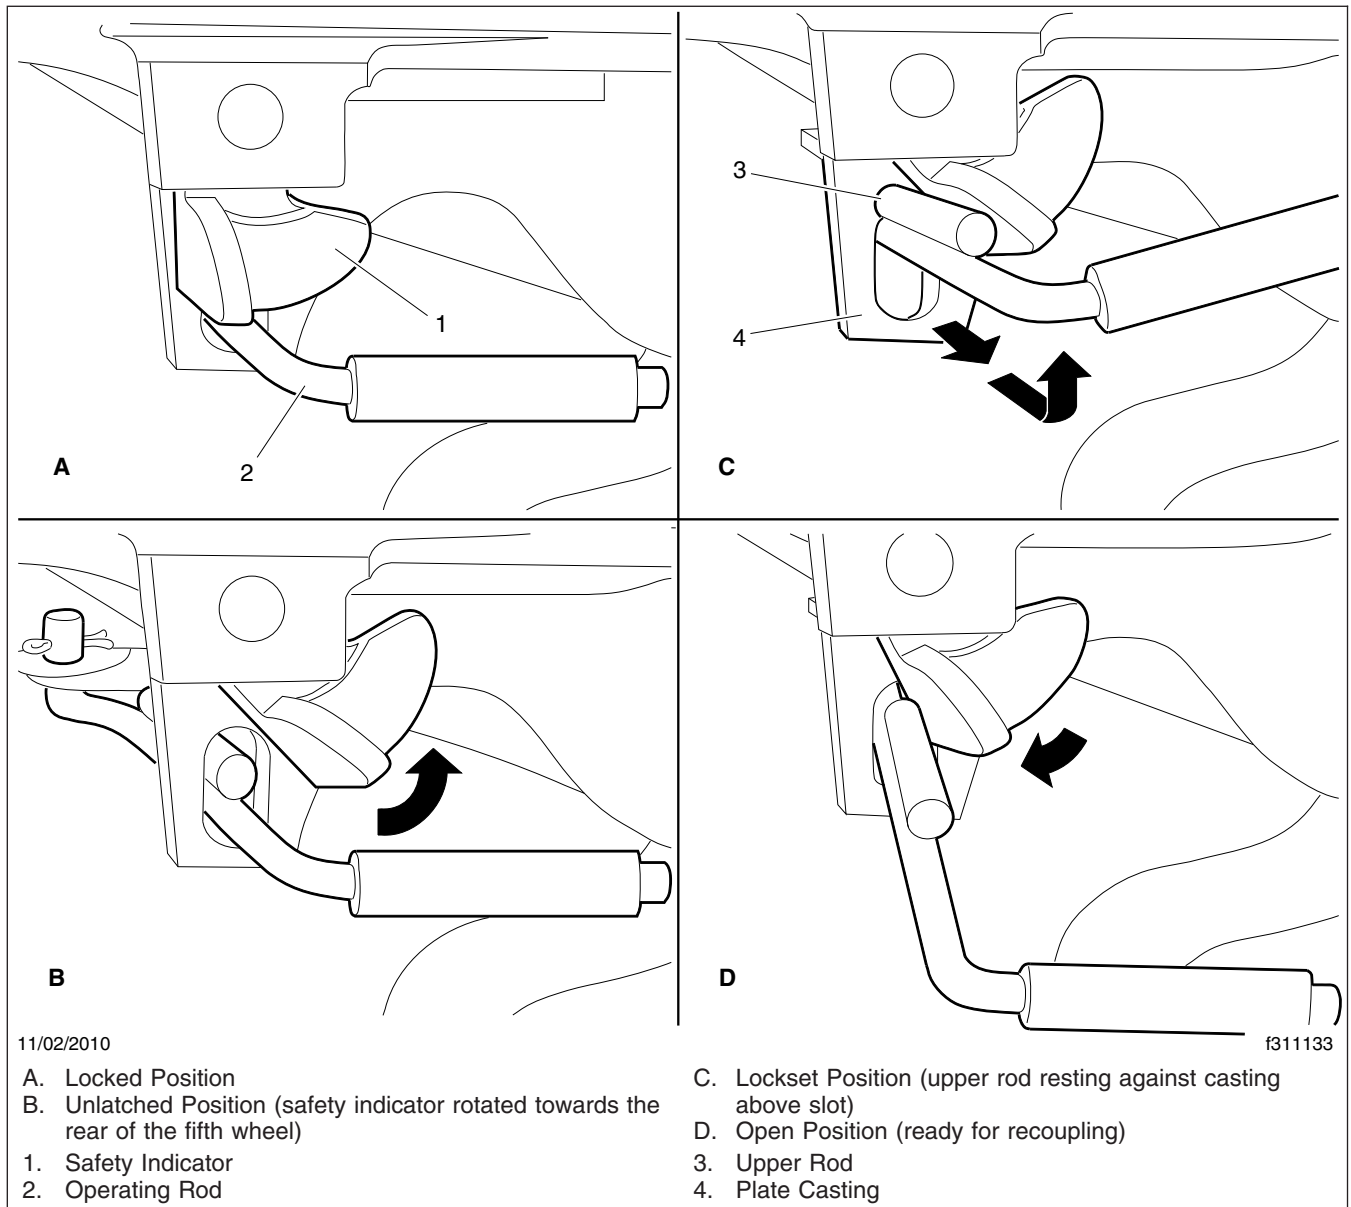

Fig. 17.9, Holland Kingpin Locking Mechanism
- 6.2 **Holland:** In the locked position the safety indicator swings freely over the operating rod. See Fig. 17.9, View A.
To unlock the mechanism, manually rotate the safety indicator toward the rear of the fifth wheel. See Fig. 17.9, View B.
Pull the operating rod out. When the upper operating rod shoulder is outside the slot, raise the handle and place the shoulder of the upper rod against the plate casting, above the slot. See Fig. 17.9, View C.
The fifth wheel is now in the lockset position and is ready for uncoupling. As the tractor pulls away from the trailer the kingpin forces the jaw to rotate, contacting the lock. Continued rotation of the jaw forces the lock to move outward, and drops the upper rod back into the slot. See Fig. 17.9 View D. The wheel is now ready for coupling.